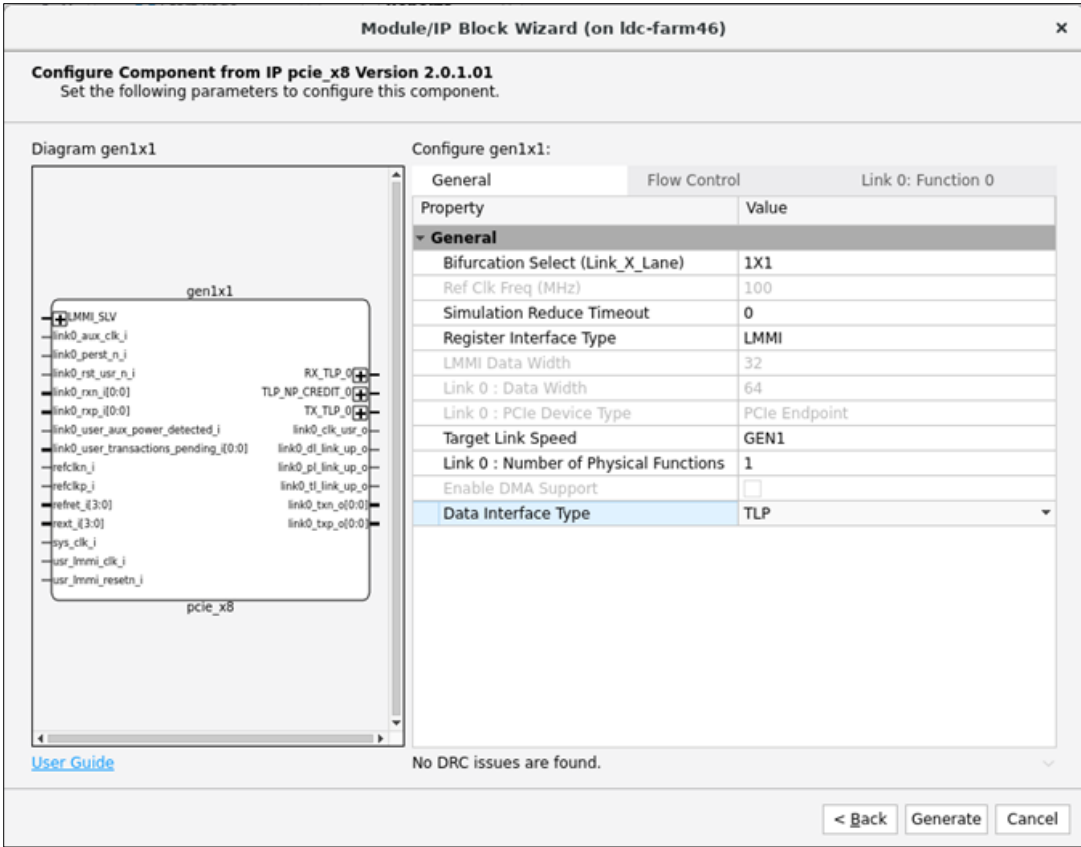
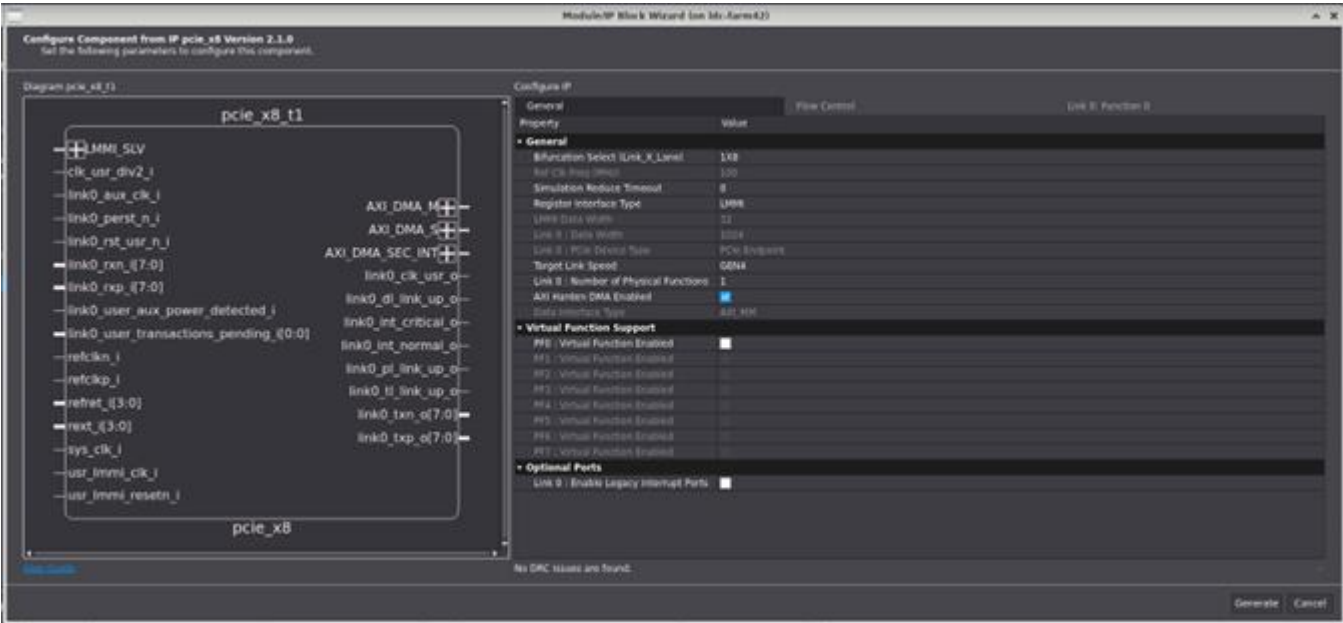
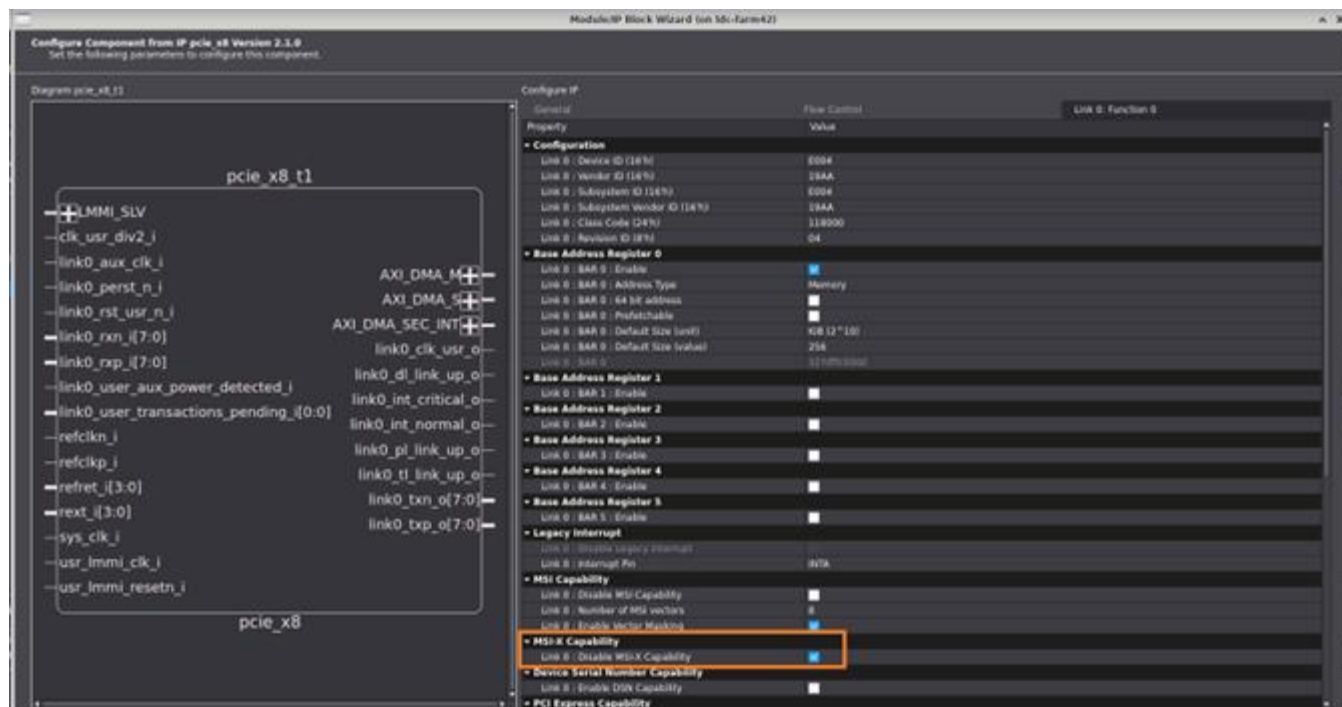

Figure 7.2. IP Configuration for Non-DMA
Figure 7.3. IP Configuration for Hardwired DMA (General Tab)
Figure 7.4. IP Configuration for Harden DMA (Link 0: Function 0 Tab)
3. In the next **Module/IP Block Wizard** window, customize the selected PCIe x8 IP using drop-down lists and check boxes. Figure 7.2 shows an example configuration of the non-DMA PCIe x8 IP. For the harden DMA example design support, Figure 7.3 and Figure 7.4 show the supported configuration of the harden DMA PCIe x8 IP. For details on the configuration options, refer to the IP Parameter Description section.